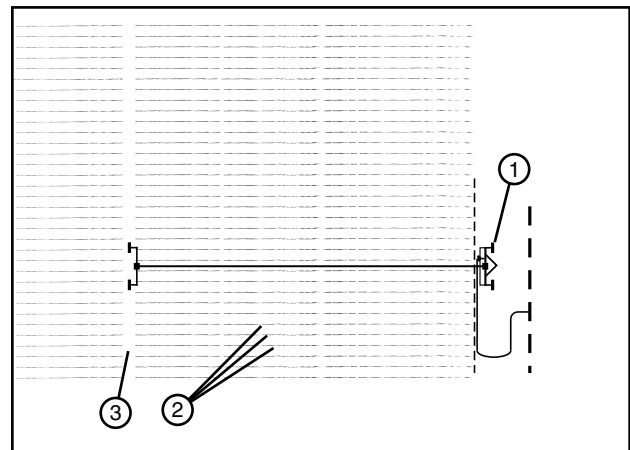

Figure 31-2 Perpendicular Travel
Use the following method to establish perpendicular wheel tracks. See figure 31-2.
1. Plant the crop perpendicular to the linear system. See figure 31-2.